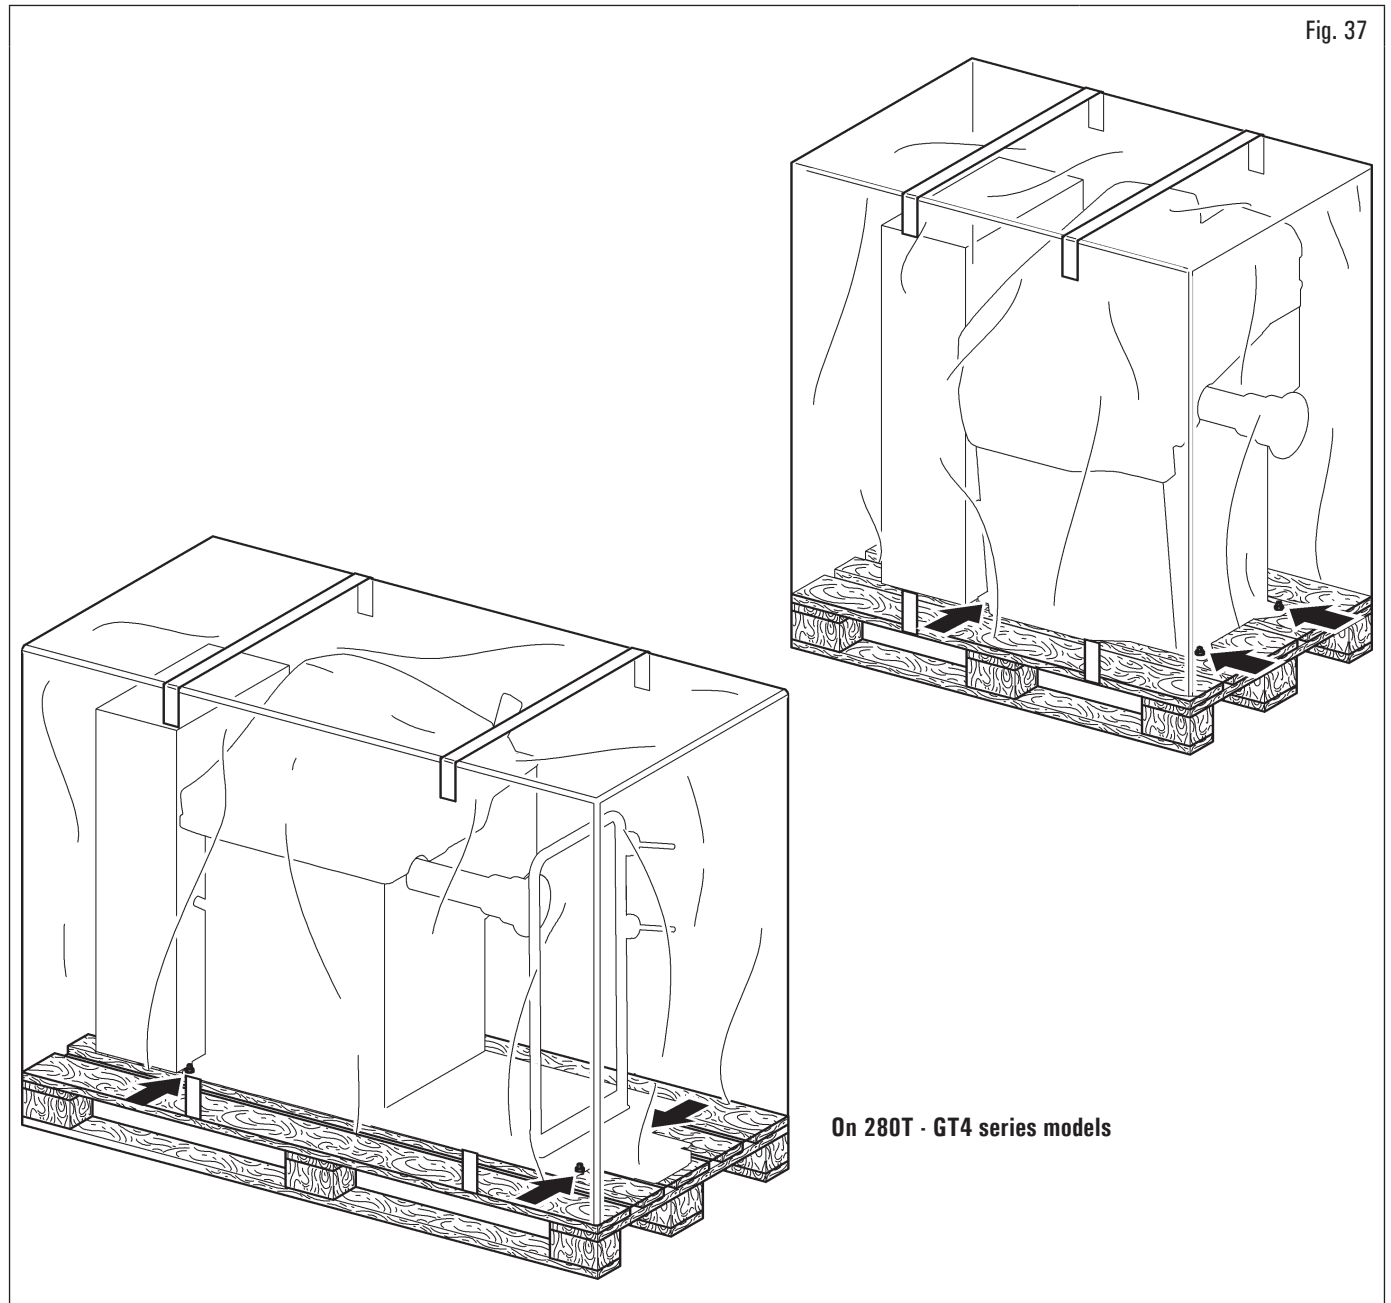

Fig. 37
- The equipment is usually shipped partially assembled as shown in Fig. 37.
- lift carefully, using adequate load support means, in perfect working order, using the appropriate signs placed on the packaging Fig. 37.